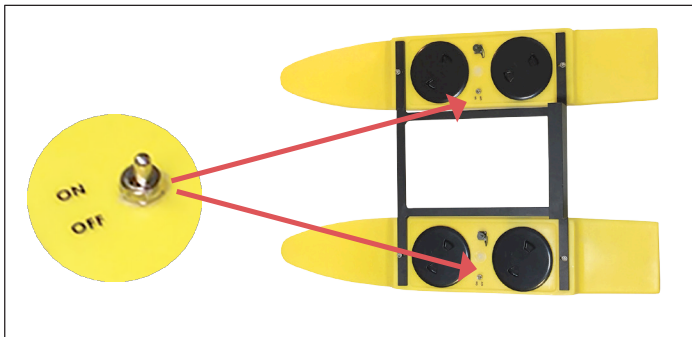

Figure 2—HyDrone mounting frame, two access hatches on each pontoon, and on/off switch
- 4.1.1 ON/OFF waterproof switch to the motor on each pontoon (see Figure 2)
- 4.1.2 HyDrone mounting frame—the aluminum frame comes with four bolts (see Figure 2)